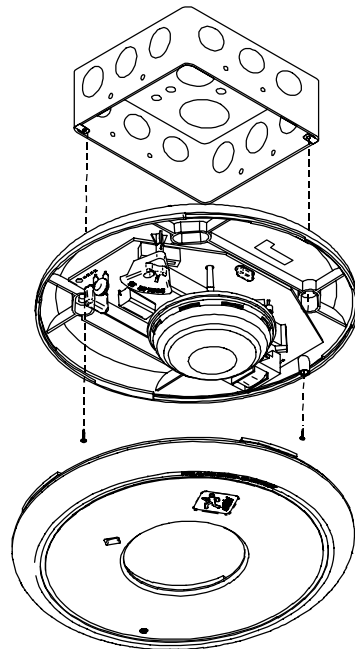

Figure 5: Mounting diagram
5. Mount the unit onto a compatible electrical box. See Figure 5.